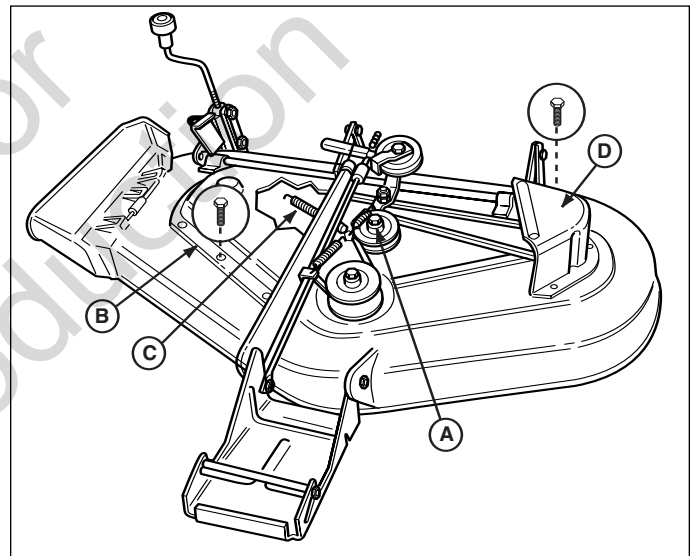

Figure 54. Mower Deck
4. See Figure 54. Remove three capscrews securing left-hand arbor cover (D).
7. See Figure 54. Reinstall the left-hand arbor cover (D). Reinstall the mower deck if removed.